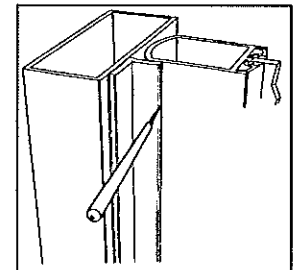

Fig. 3
1. Wedge the door in place to the desired hinge side clearance. Place the short leg of the "L"-shaped base against the face of the door as shown (Fig. 3). Scribe a mark along the full height of the door.